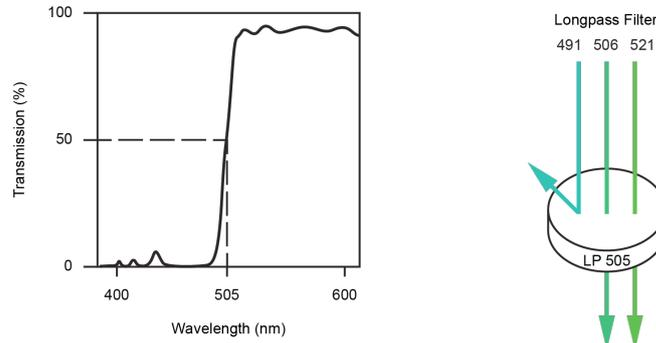

Figure A-5 505nm Longpass Filter
Longpass (LP) filters pass wavelength longer than the cutoff wavelength. For example, a 505nm LP filter allows wavelengths longer than 505nm to pass through it and either absorbs or reflects wavelengths shorter than 505nm (Figure A-5).